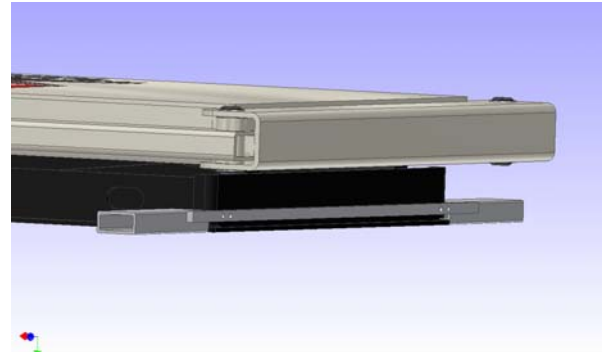

Figure 33
1. Install the tread way locating brackets. The brackets bolt on the ends of the lift base and are each secured with two 3/8 bolts (see Figure 33).